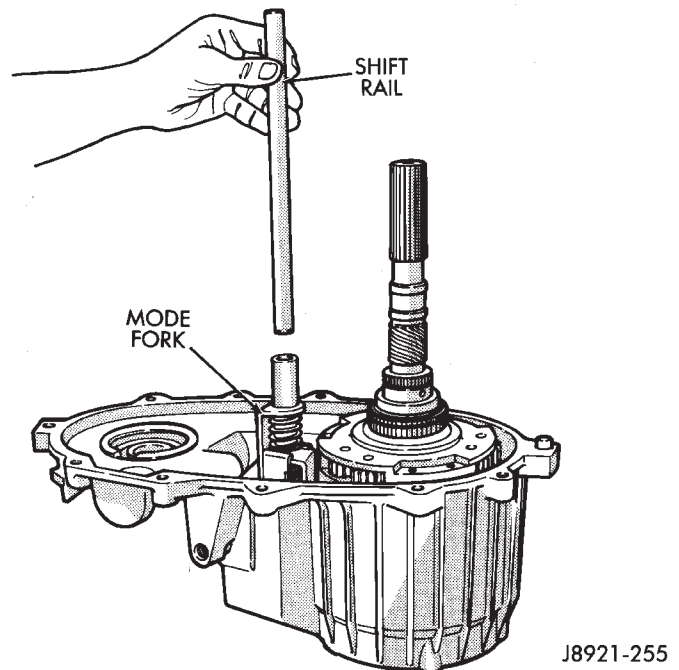

Fig. 26 Shift Rail Removal
(4) Remove shift rail by pulling it straight up and out of fork (Fig. 26).